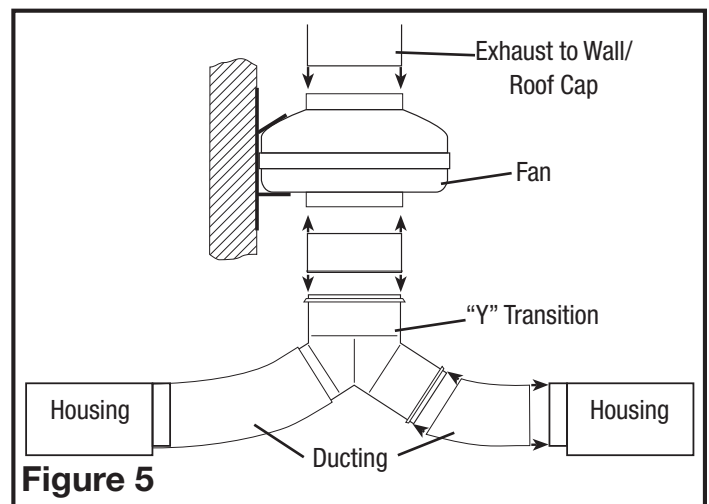

Figure 5
1. Connect one end of the ducting (not included) to the room level collar/damper and the other end to the "Y" transition. Secure both ends in place using tape or a screw clamp to create as air tight a seal as possible. Repeat this step for the other room level grill housing (**Figure 5**).
3. Connect one end of the ducting to the top of the "Y" transition and the other end to the intake of the fan (**Figure 5**).
4. Connect one end of the ducting to the exhaust of the fan and the other end to a wall or ceiling cap (**Figure 5**). Always duct the fan to the outside through a wall or roof cap.